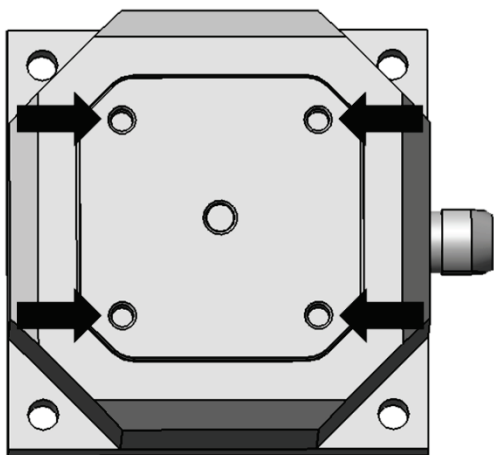

Figure 5: P-313: Mounting holes in the motion platform (see arrows)
- Only affix loads to the mounting holes (see arrows in Figure 5 on p. 12) intended for this purpose and with suitable screws. While doing so, observe the following: